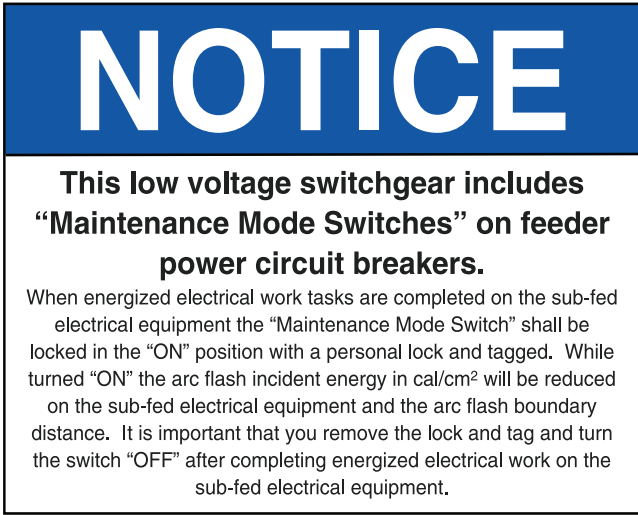

Figure 5. Notice Signage Arc Flash Maintenance Mode Switch Installed
4. Add specific “Notice” electrical safety signage where incident energy reduction methods have been engineered and included in electrical equipment. This ensures that the Qualified Person is aware and follows an identified procedure and confirms the incident energy reduction method is “on.” See Figures 5 and 6.